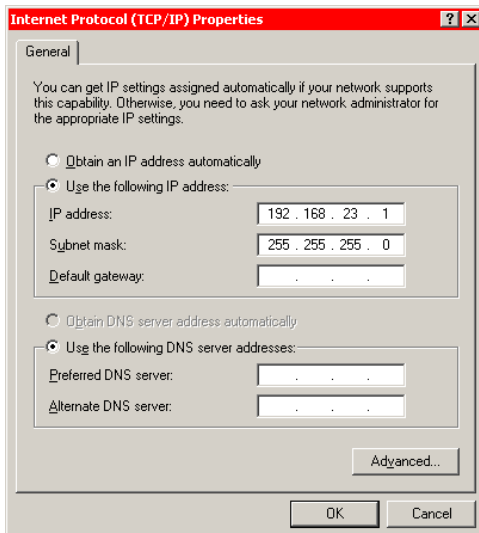

Figure 6.2 - Internet Protocol (TCP/IP) Properties
- 4.4 Select the **Internet Protocol (TCP/IP)** item and click the **Properties** button. Another dialog box will appear (see Figure 6.2).